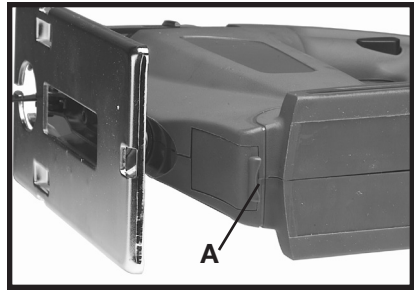

Fig. 11
To open the blade/wrench storage unit, pull out on tab (A) Fig. 11.